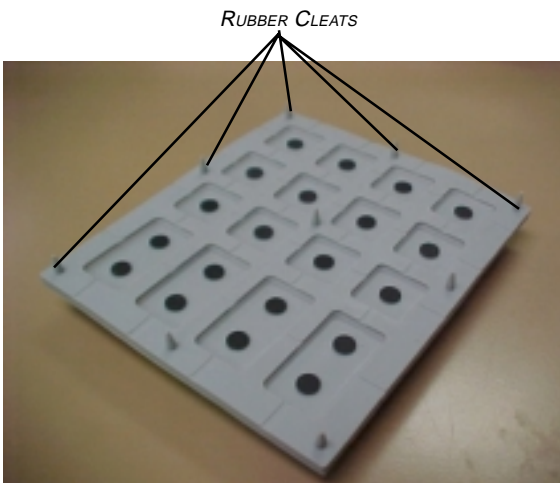
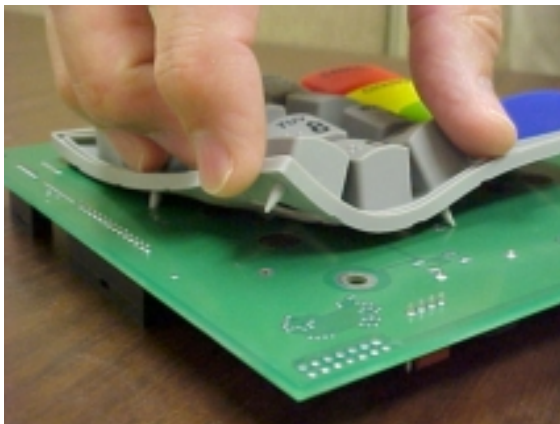
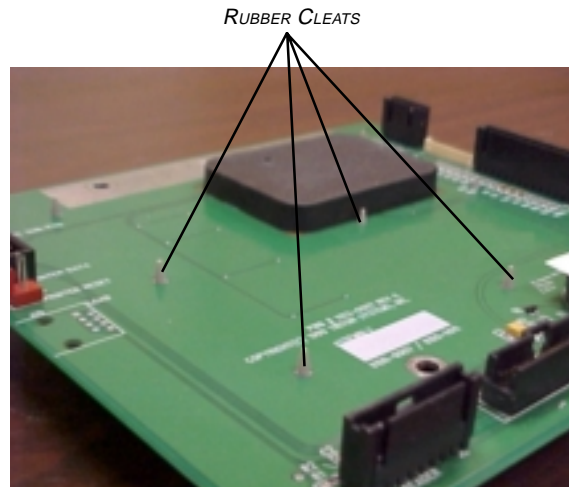

FIGURE 3a. RUBBER KEYPAD CLEATS.
FIGURE 3c. ALIGNING CLEATS WITH HOLES IN SPED BOARD.
FIGURE 3d. CLEATS PULLED THROUGH SPED BOARD.
6. Place the Rubber Keypad on the replacement board, ensuring it is oriented correctly (see Figures 3a and 3b), and line up the rubber cleats on the back surface of the keypad with the corresponding holes in the SPED board, as shown in Figure 3c. Pull the rubber cleats through the matching holes in the board, as shown in Figure 3d, ensuring the keypad is flush with the surface of the SPED board.